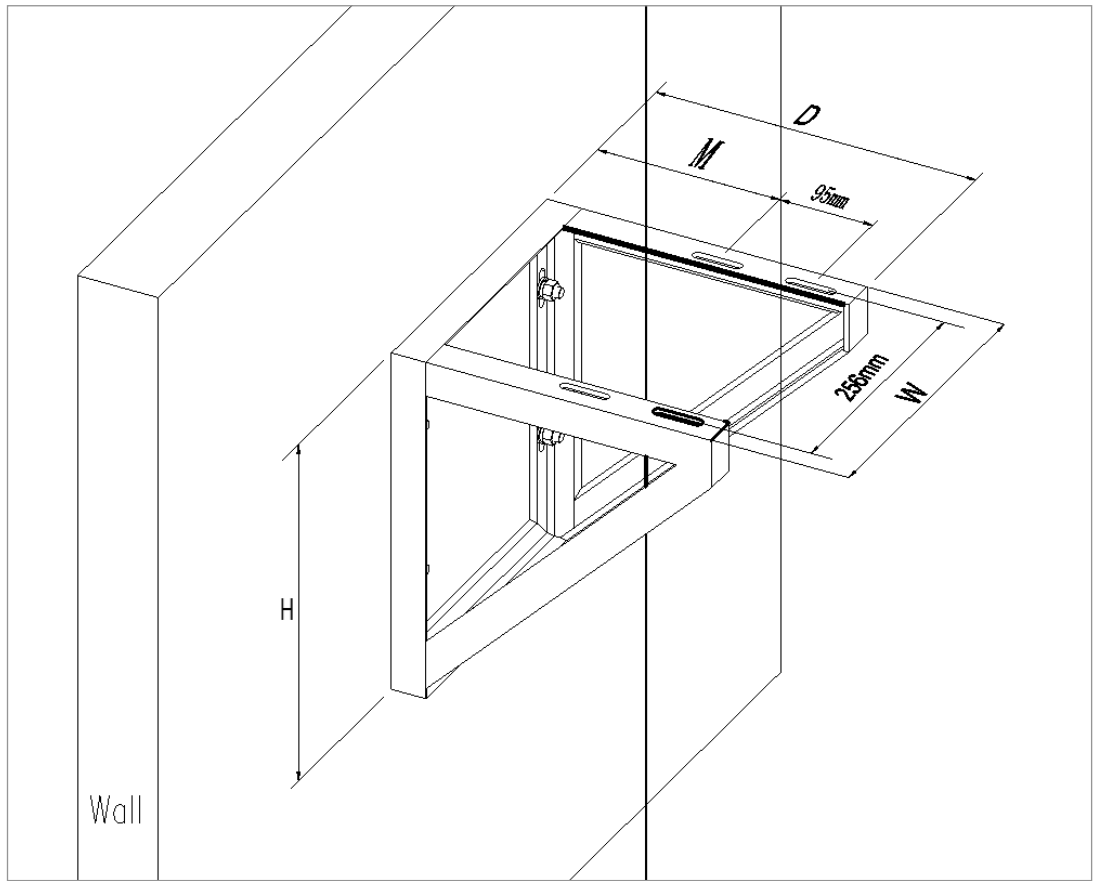

FIGURE 5: Schematic Drawing of Bracket Dimensions
At the time of mounting, consideration should be given to the distance (M) of the plumb wire away from the wall. The bracket (as shown in Figure 5) is designed so that $M = (L + 73 \text{ mm})$. Dimensions D and H depend on the distance from the plumb wire to the wall, which also determines the width and height of the bracket. Dimension W corresponds with the hole spacing on the manual sighting and reading table. The top height of the bracket should be approximately 1.5 m (5') from the floor to facilitate operation.